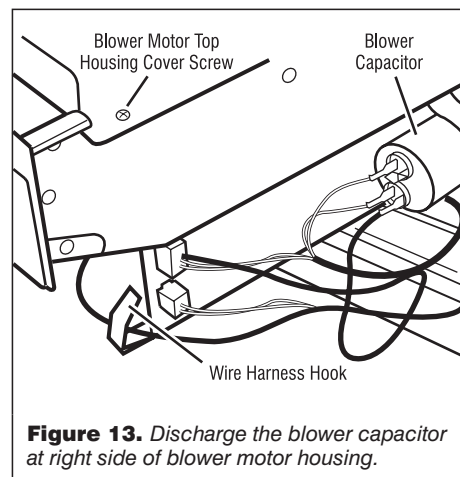

Figure 13. Discharge the blower capacitor at right side of blower motor housing.
- b) Remove the wires from the hook in the blower motor housing. See figure 13.
- d) **IMPORTANT:** Discharge the blower capacitor by touching a 20,000 Ω resistor to the terminals and chassis. See figure 13.